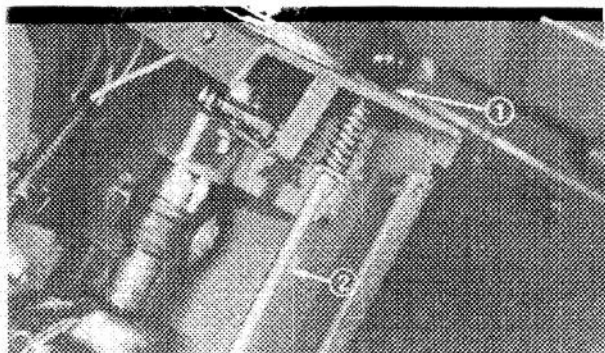

Figure 28
2. Screw knob and locknut off top end of the parking brake rod (Fig. 28).